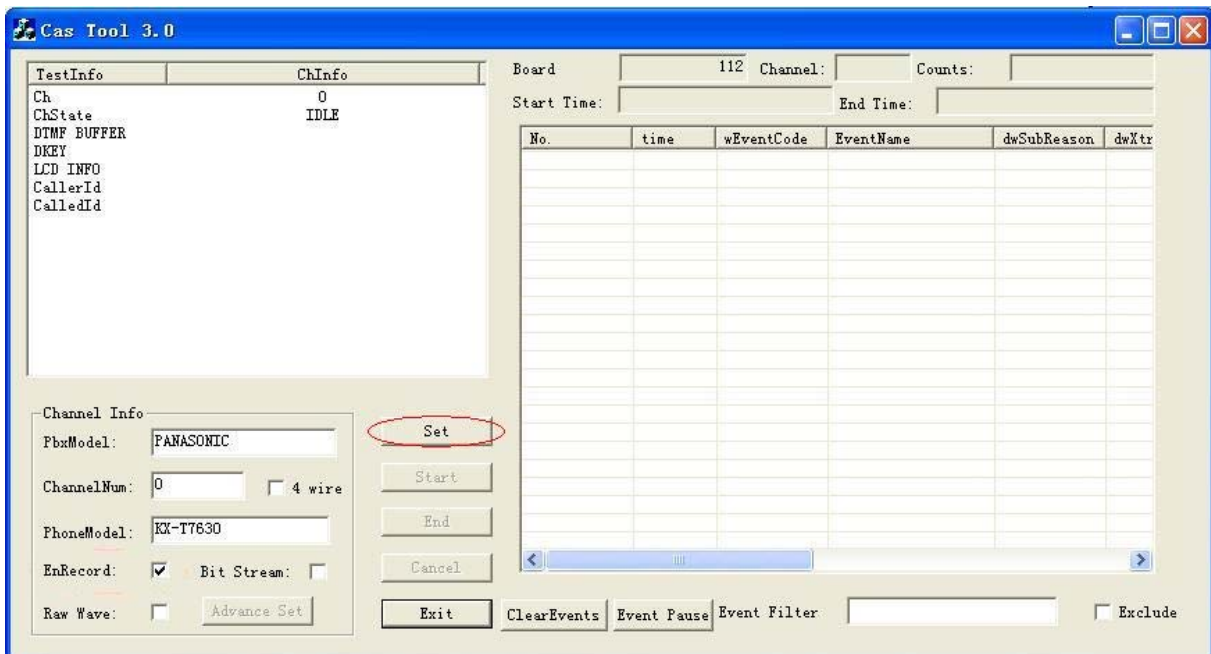

Figure 2-4
Step 4: When you finish setting the parameters under 'Channel Info', click on 'Set' as shown in Figure 2-4.